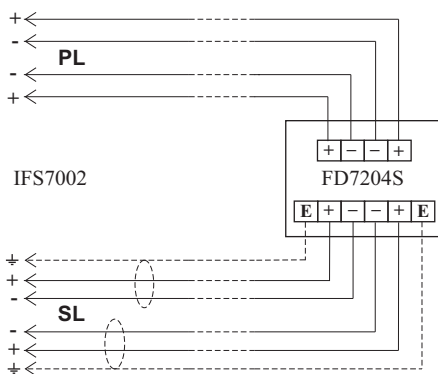

Fig.2
3. Complete the wiring as shown on fig. 2, and in accordance with the construction projects of the site.